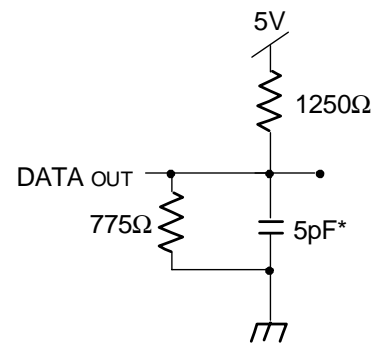

Figure 2. Output Test Load
1. Transition is measured 0mV from Low or High-impedance voltage Output Test Load (Figure 2).
1. Transition is measured 0mV from Low or High-impedance voltage with Output Test Load (Figure 2). This parameter is guaranteed by device characterization but is not production tested.
7. This parameter is determined to be device characterization, but is not production tested. Transition is measured 0mV from steady state with the Output Test Load (Figure 2).